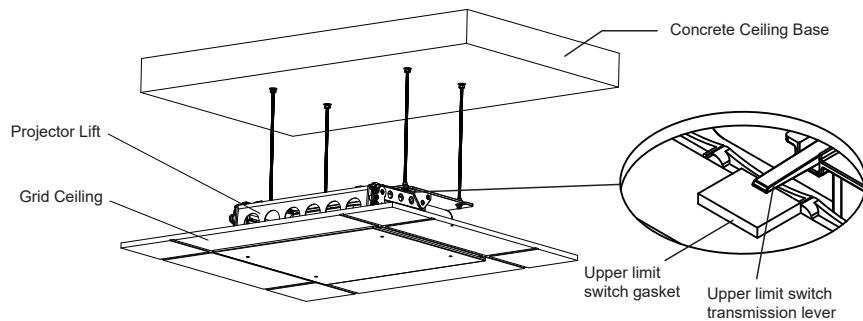

Figure 3 (overall diagram)
3. During installation, making sure to align the holes accurately, then lock it in place with nuts, ensuring the bottom frame of the lift just covers the ceiling frame, completely concealing any gaps left after installing the projector lift, as shown in Figure 3.